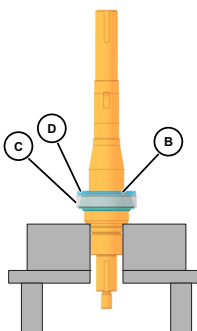

Figure 50 - Inner & Outer Spacer and Lower Cup
4. Place the inner spacer (Figure 50, item B) over the shaft onto the lower cone and roller assembly.